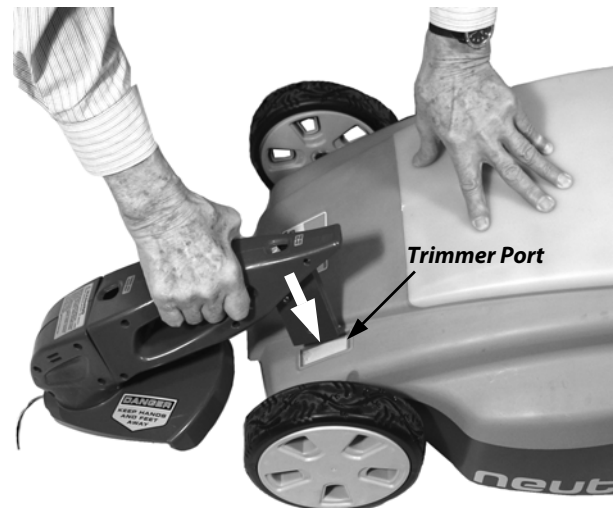

Figure 33
2. Insert the Trimmer post into the Trimmer Port in the front of the Mower (**Figure 33**). The Post will snap into place when fully inserted.
TIP → Hold the Mower so that it will not roll (**Figure 33**) when inserting the Trimmer.
TIP → Hold the Mower (**Figure 33**) so that it will not roll when removing the Trimmer.